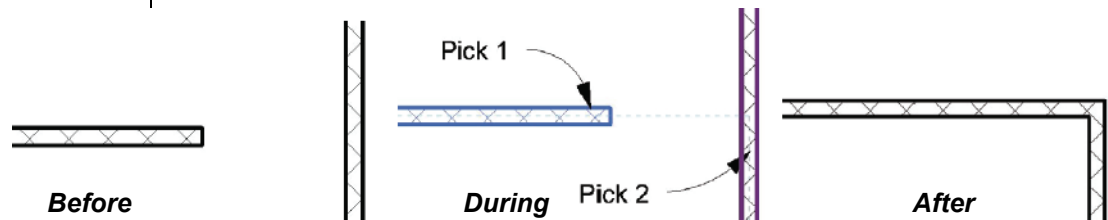

Figure 2–43
3. Select the second wall or line on the side you want to keep, as shown in Figure 2–43.